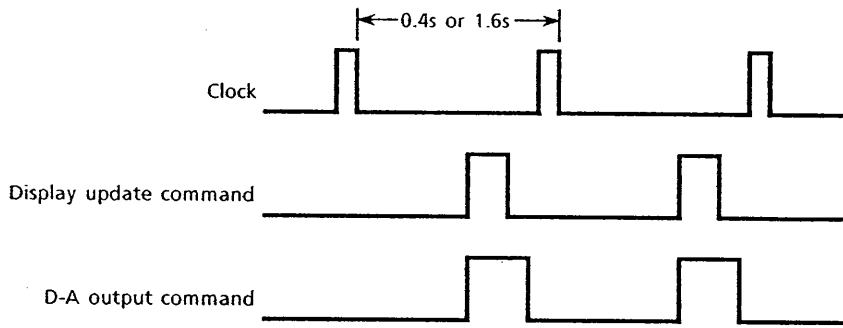

Figure 5.3 With Hold OFF
- Figure 5.3 and Figure 5.4 show the D-A output timing.